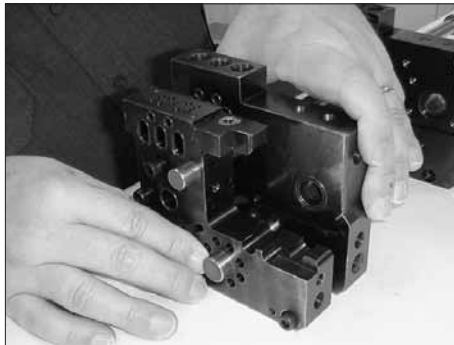

Figure 7-61 Assembling inner slices
4. See Figure 7-61. Starting with the inner slices, assemble the applicator by sliding the slices over the alignment pins as follows: